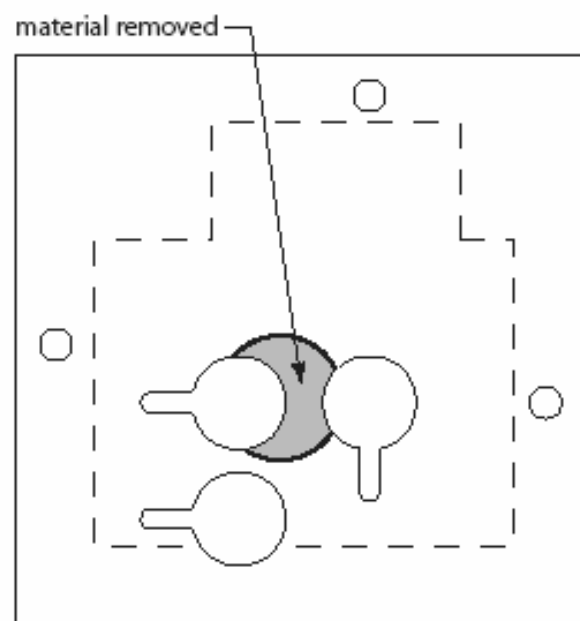

Figure 2. GC Liner - two cuts required
5. Cut the GC liner per the template in Figure 2, and then secure the mounting plate onto the oven with the screws provided.